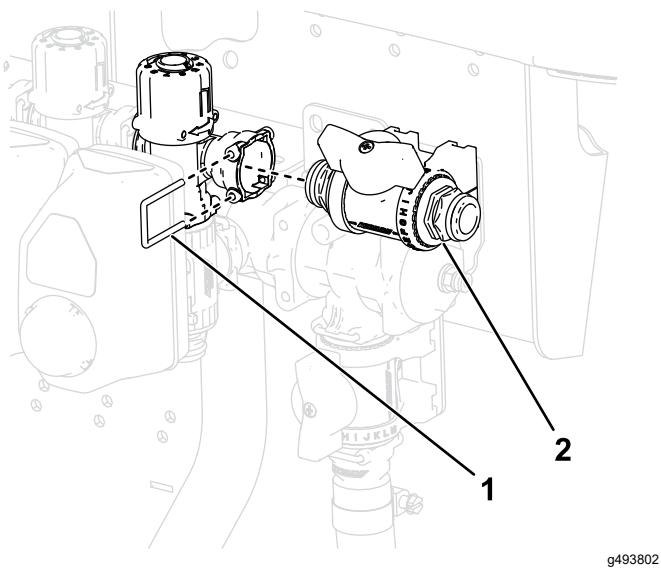

Figure 41
13. Install the control-valve assembly to the valve cluster as shown in Figure 41.